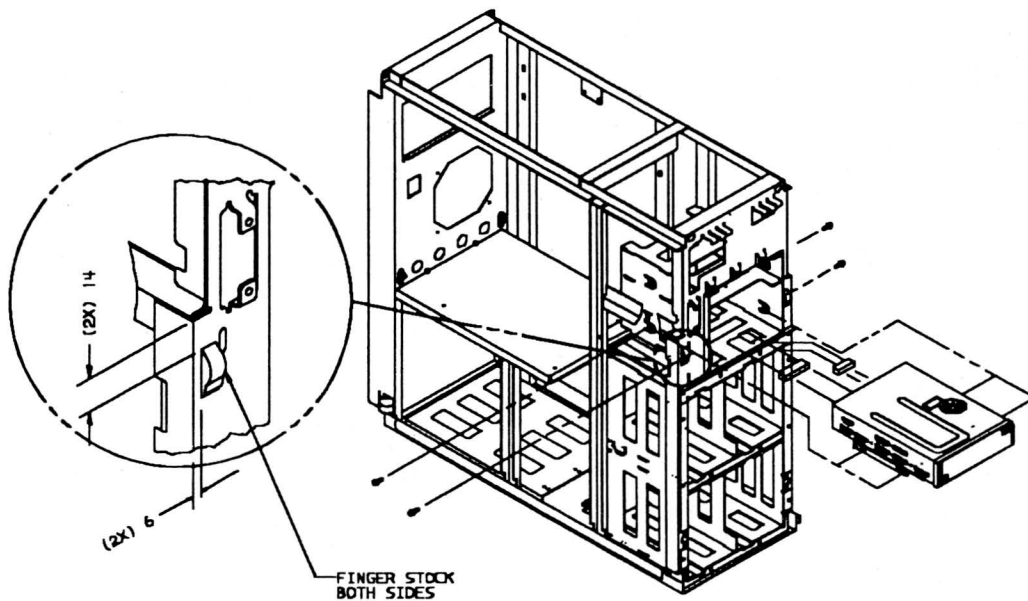

FIGURE 2
10.5 INSTALL TAPE DRIVE (use Figure 2 for Steps 10.4.1 through 10.4.5)
- 10.5.6 Place finger stock as shown in Figure 2 and press in place. If the frame already has finger stock, discard the parts that came with this FFBM.